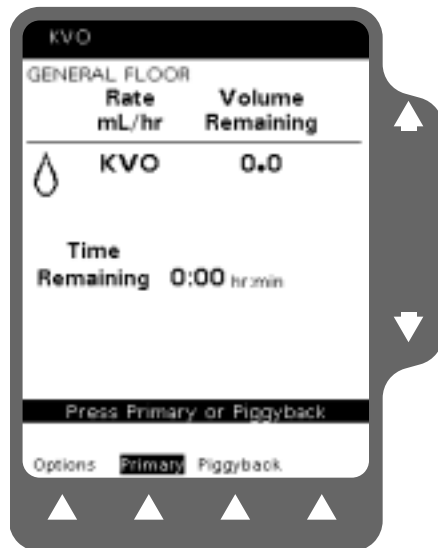

Figure 3-19 KVO Display
1. When the volume remaining reaches zero, the pump automatically enters a KVO (Keep Vein Open) alert mode (Figure 3-19).